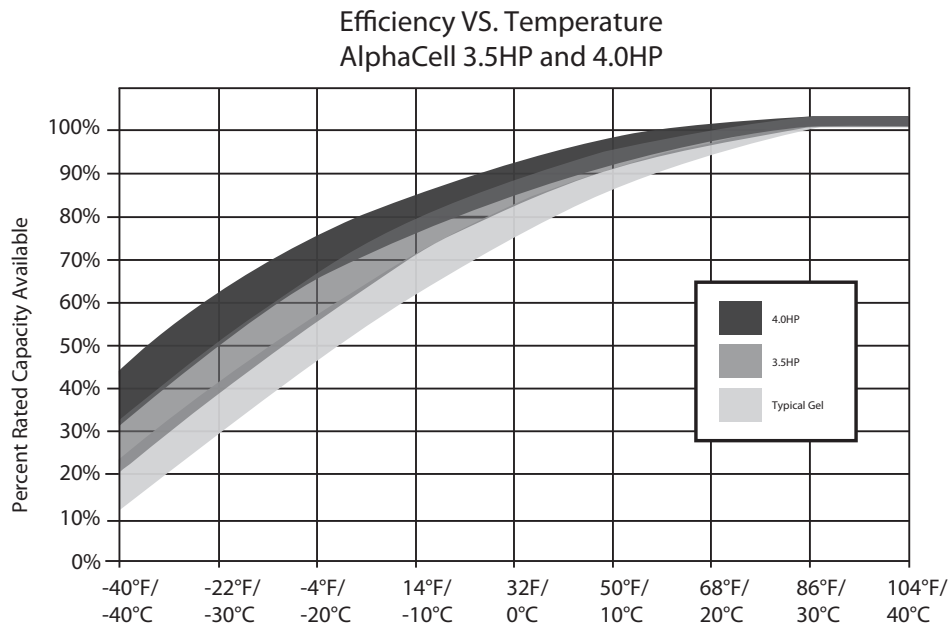

Fig. 4, Available Capacity vs. Ambient Temperature
- As batteries get colder, the available capacity is reduced. This is related to the kinetics of the electrochemical reactions and the resistivity of the electrolyte (See Fig. 4).